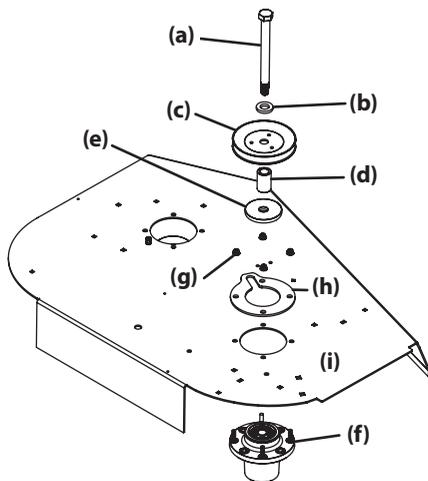

Figure 49
4. Remove the hex bolt (a), washer (b), pulley (c) spacer (d) and fender washer (e) from the spindle assembly (f) (Figure 49).
5. Remove the four flange lock nuts (g) and support plate (h) securing the spindle assemblies (f) to the deck (i) (Figure 49).
7. Reverse STEPS 4-5 to install the spindle assembly. When installing the new spindle assembly be sure to install the hardware exactly as shown in Figure 49. Torque the flange lock nuts to 21-32 ft-lbs (28.47-43.39 N-m).